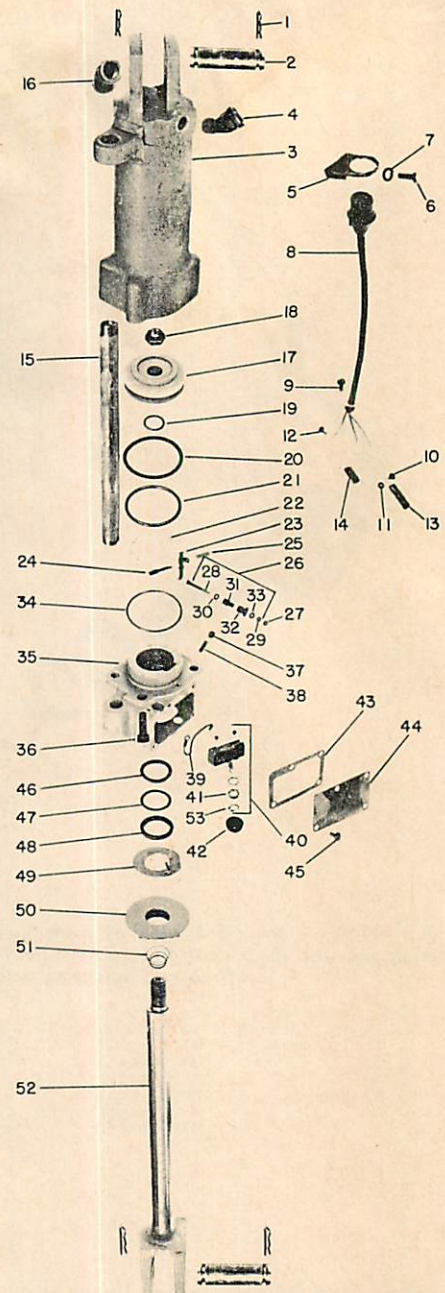

Fig. O162 — Exploded view of 3-inch Hydra-Lectric remote double acting cylinder.
**Fig. O163 —** Cross-section view of 4-inch Hydra-Lectric cylinder. Cylinder head is retained by snap ring (78); whereas 3-inch cylinder head is retained by capscrews as shown in Fig. O162.